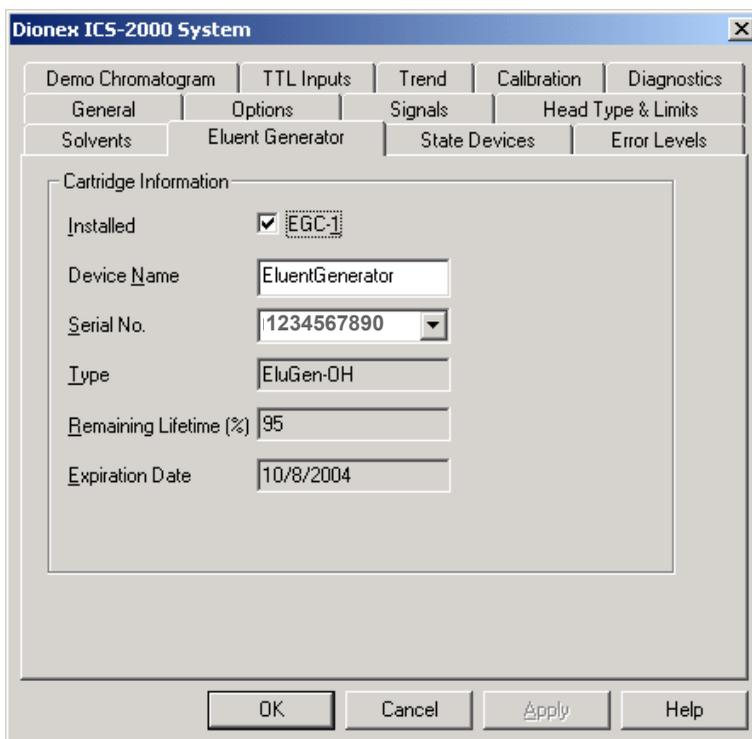

Figure 5-39. Eluent Generator Configuration Properties Example
- b. Click the **Eluent Generator** tab (see Figure 5-39).